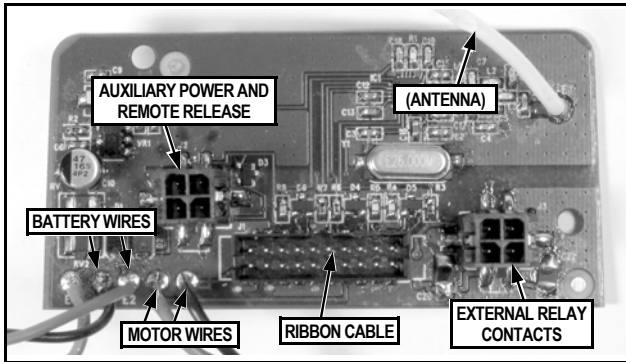

FIG. 14: RECEPTACLES LOCATED IN THE INSIDE HOUSING
3. See Fig. 14. Before placing the inside housing onto the lock, plug the ribbon cable and the motor wire into their receptacles on the inside housing circuit board. **Note:** These plugs and sockets fit only one way—do not force them. Seal the connectors with dielectric grease (included). Do not allow the wires to cross or lay on top of each other. Jiggle the connector cable to be sure the wire opening does not pinch wires before fastening bolts.